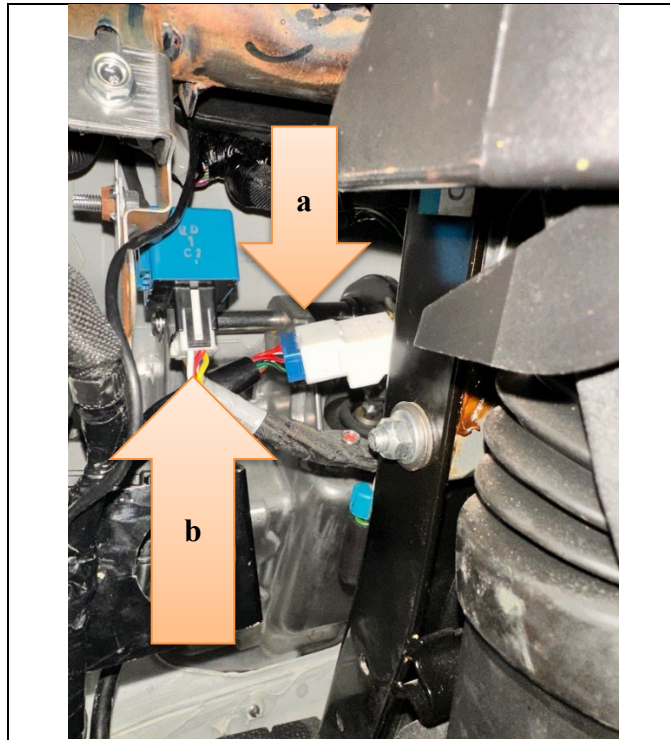

Figure 83
87. Disconnect the old T-Harness from both B-216 and the flasher module and remove the old T-Harness from the vehicle. (See Figure 83.)
89. Install the new T-Harness into the connector B-216 and the flasher module. Refer to Figure 83.